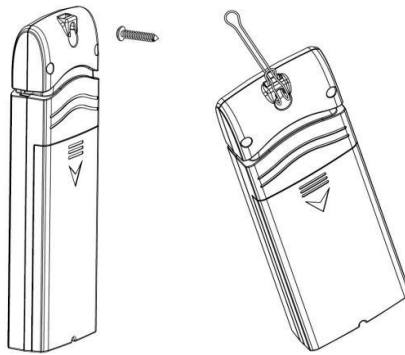

Figure 21: Indoor sensor mounting
- Use a screw or nail to mount the sensor directly (see left side of Figure 21), or hang the sensor using a string or wire (see right side of Figure 21).